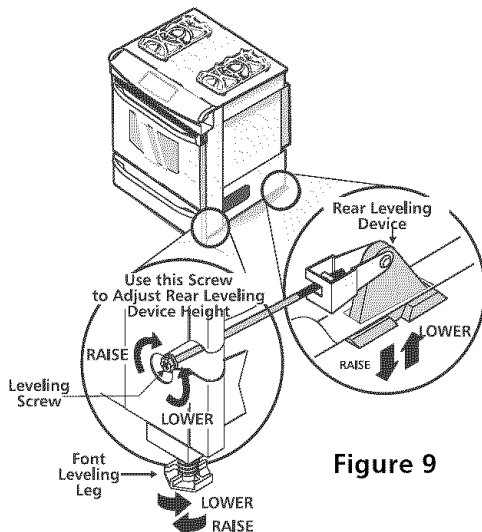

Figure 9
9. **Level the range** (figure 9). **The floor where the range is to be installed must be level.** Follow the instructions under "Leveling the Range - Models Equipped with Leveling Device."
2. Adjust the appliance legs as follows until the underside of the cooktop surface is sitting level on the countertop (Figure 9).